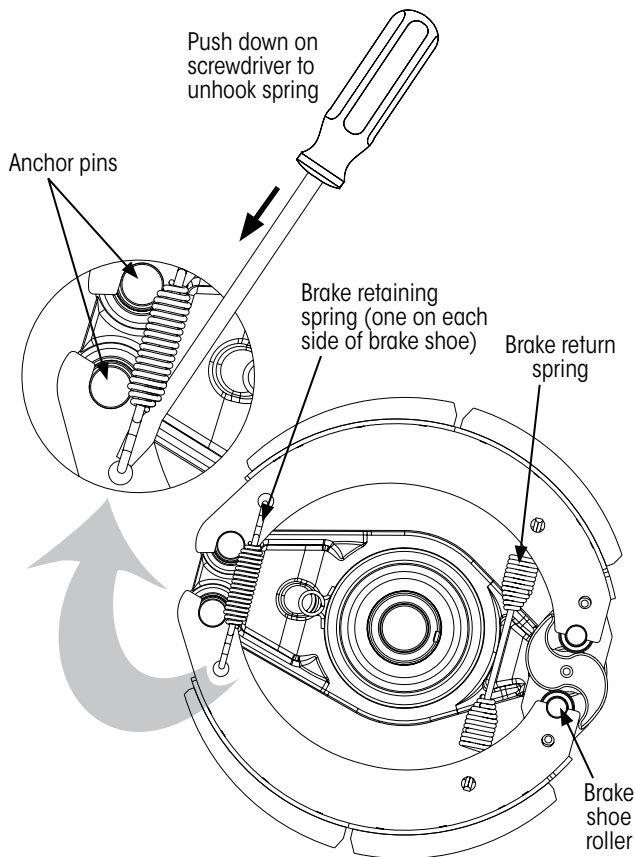

Figure 2: Removing brake retaining spring using Tool A
1. **Manually supporting** the lower brake shoe, use Tool A or Tool B to **unhook** both brake retaining springs from the brake shoes (Figure 2 and 3).
**IMPORTANT:** The brake return spring, brake shoe rollers and roller retaining clips (Figure 2) will remain on the brake shoes during this procedure.